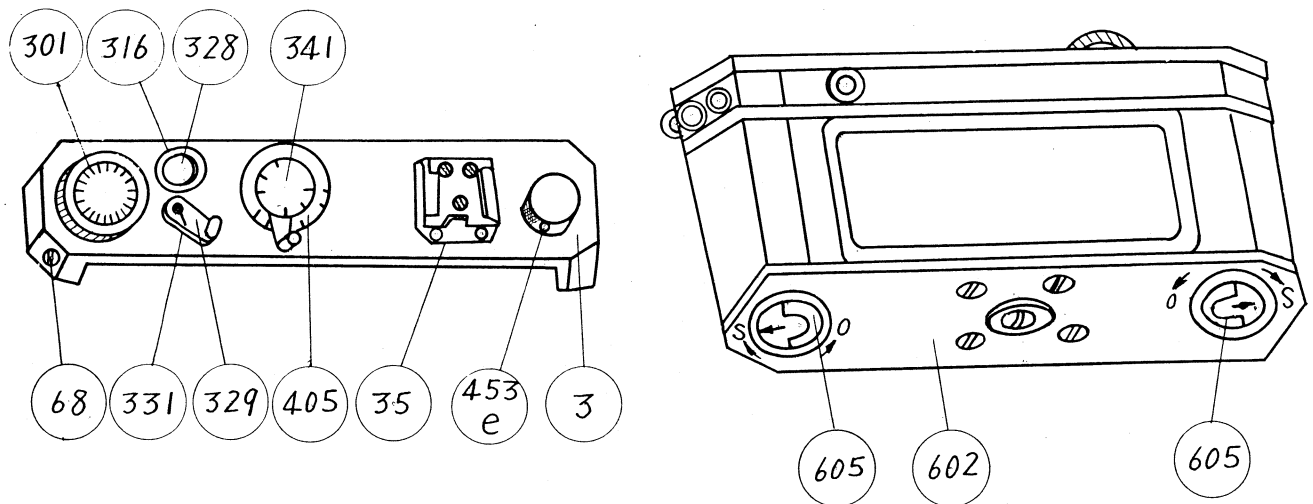

Fig. 2 Removal of Top Cover and Camera Back
- (2) Removing the front cover: (Fig. 2)